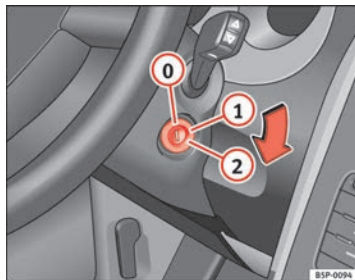

Fig. 137 Ignition key positions
In this position \Rightarrow fig. 137 the ignition and the engine are OFF and the steering may be locked.
- Turn the ignition key to position ⇒ page 169, fig. 137 . The indication lamp  will light for engine pre-heating.
- Turn the ignition key to position ⇒ page 169, fig. 137